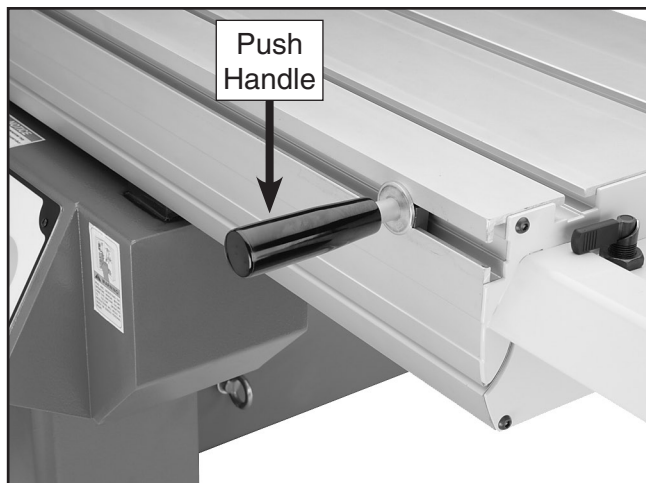

Figure 42. Sliding table push handle.
- Slide the M12-1.75 T-nut into the sliding table and thread in the M12-1.75 x 12 push handle with a washer as shown in **Figure 42**.